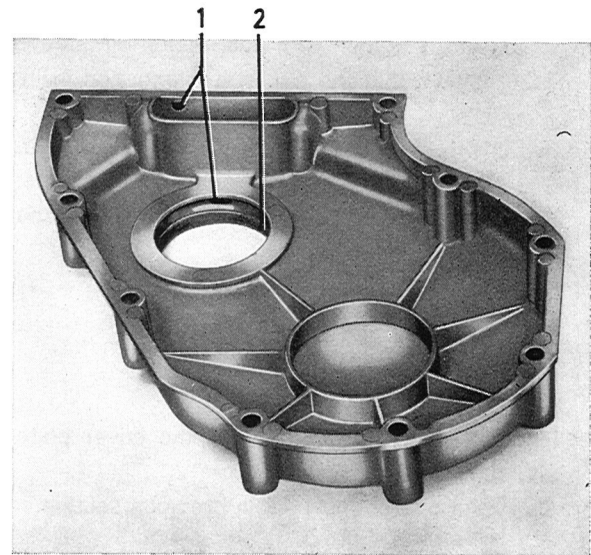

Fig. 2-48. Timing gear cover
4. Make sure that the gaskets are in good condition and that the drain hole is open and clean inside the timing gear cover. See Fig. 2-48.